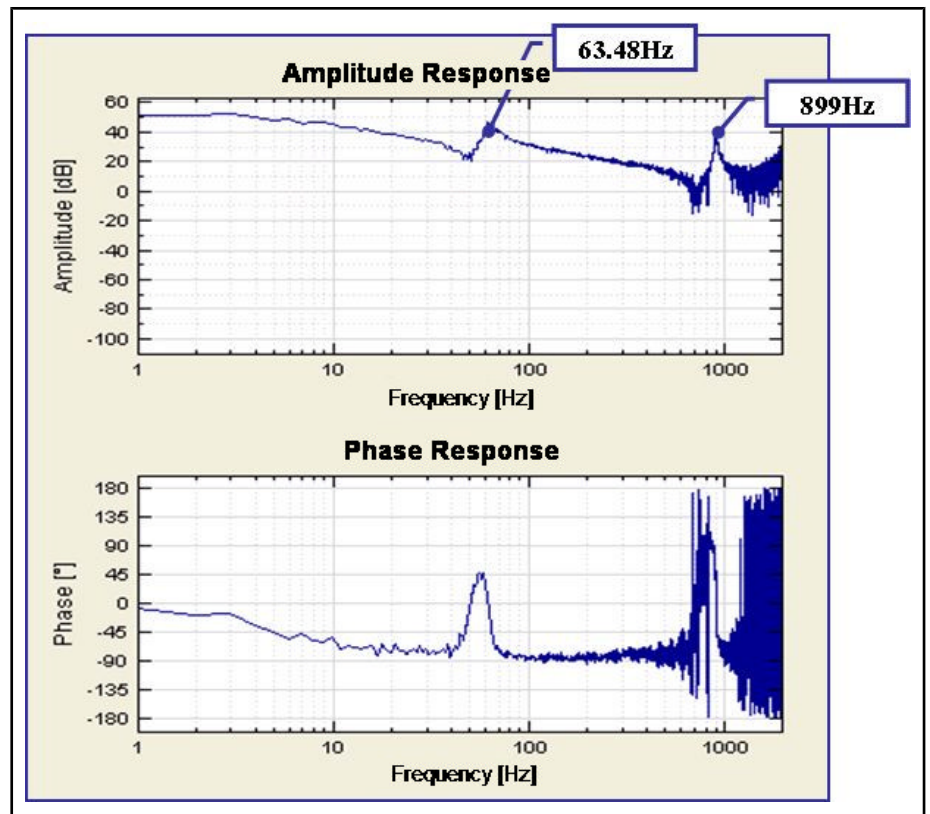

Fig.8-10: Resonance frequency in the system
4. Fig. 8-10 shows the amplitude and phase responses determined after the measurement of the frequency response. Two resonance points have been determined at 63 Hz and 899 Hz.